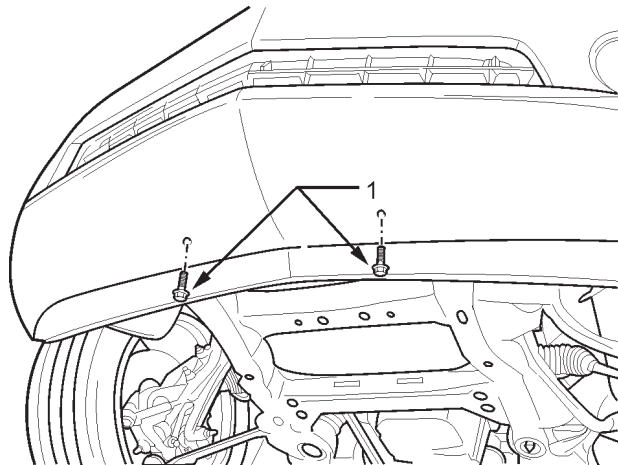

FIGURE 42
20. Remove the two 10mm Bolts from under the fascia. Refer to figure 42.